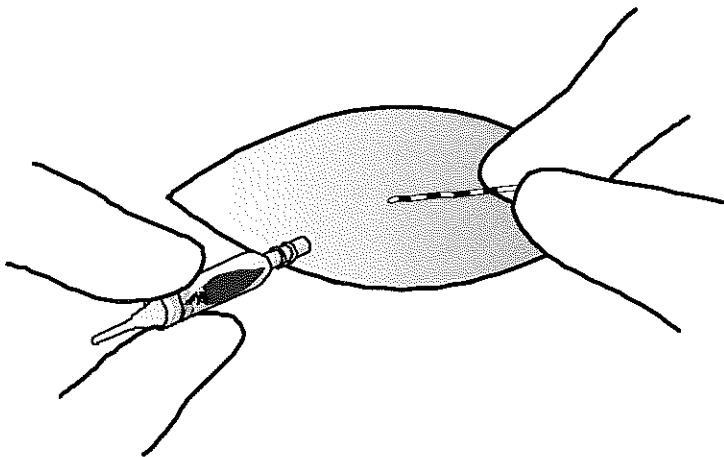

Figure 38: Withdraw lead cap and connector boot.
8. Withdraw the lead cap and connector boot through the incision and discard (Figure 38).